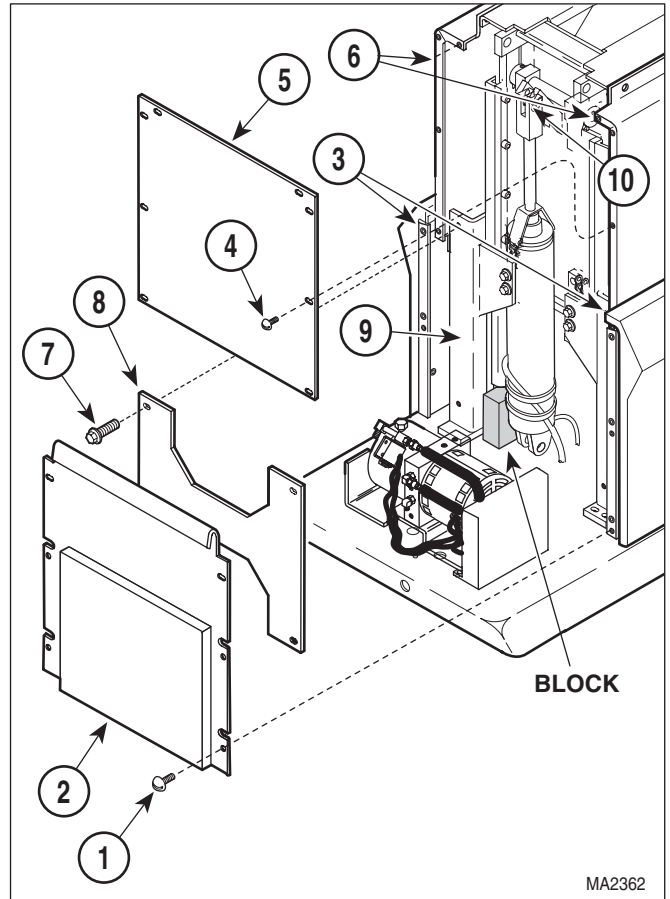
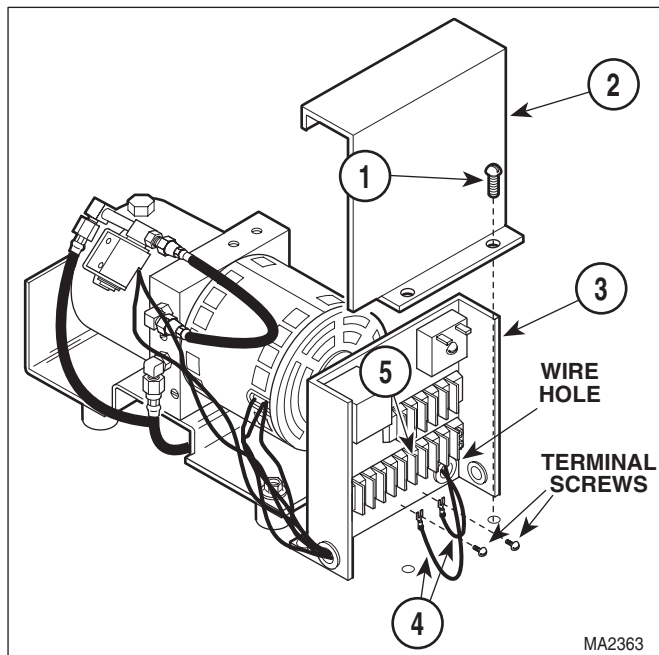
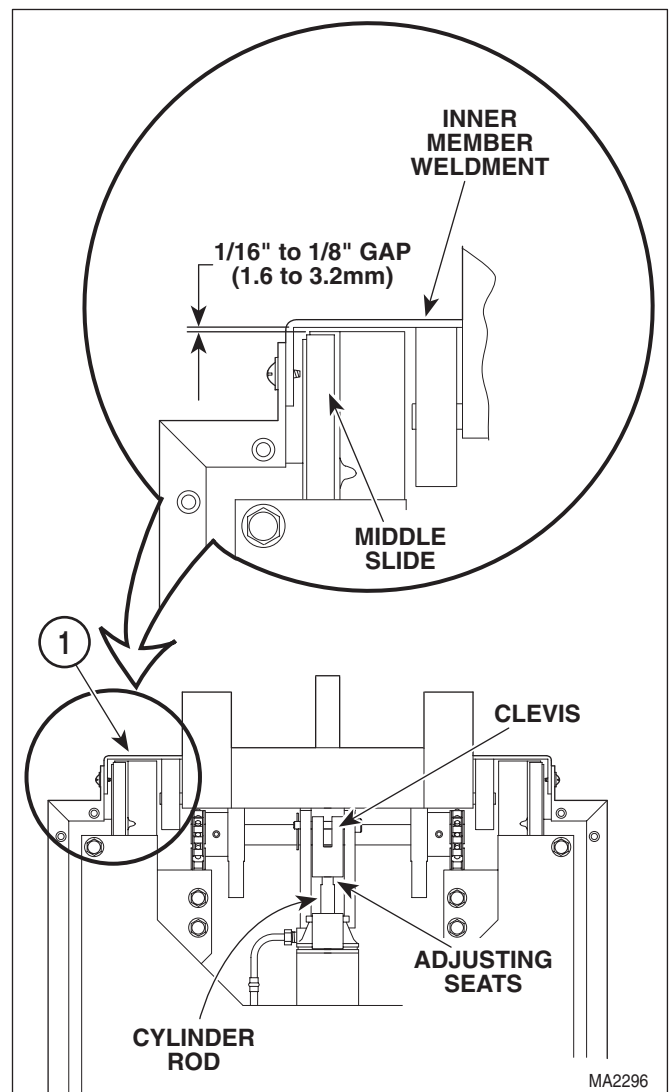

Figure 4-17. Base Cylinder Access
Figure 4-18. Base Cylinder Wires Disconnection / Connection
Figure 4-20. Base Cylinder Clevis Adjustment
- (1) Unplug table power cord from outlet.
- (2) Remove motor cover assembly (Refer to para 4.2).
- (3) Remove four screws (1, Figure 4-17) and back outer shroud (2) from left and right hand outer shrouds (3).
- (4) Remove eight screws (4) and back inner shroud (5) from left and right hand inner shrouds (6).
- (5) Remove four screws (7) and brace (8) from base slide assembly (9).
- (6) Plug table power cord into outlet.
- (7) If BASE DOWN function is operable, place a block under middle slide of base slide assembly (9). Then lower the BASE DOWN function until the middle slide of the base slide assembly is resting on block and pressure is off clevis pin (10). If BASE DOWN function is not operable, move table top to a horizontal position and place supports under each end of table.
- (8) Remove two screws (1, Figure 4-18) and control cover (2) from control panel (3).
- (6) Feed base cylinder wires (4, Figure 4-18) thru wire hole.
- (7) Connect two base cylinder wires (4) to terminal block (5) and secure by tightening two terminal screws.
- (8) Install control cover (2) on control panel (3) and secure with two screws (1).
- (9) Plug table power cord into outlet.
- (10) See Figure 4-17. Raise BASE UP function slightly and remove block from under middle slide of base slide assembly (9) or remove supports from under table top.
- (11) Lower BASE DOWN function all the way down.
- (12) See Figure 4-20. If there *is not* a 1/16 to 1/8 inch (1.6 to 3.2 mm) gap between inner member weldment and top of middle slide when the BASE DOWN function is completely lowered (it especially important that the inner member weldment does not come into contact with the top of the middle slide), perform steps 13 thru 15. If gap is correct when the BASE DOWN function is completely lowered, go to step 16.
- (13) Raise BASE UP function up until cylinder rod is extended halfway.
- (14) Place a wrench on adjusting seats of cylinder rod and use it to rotate cylinder rod to adjust clevis up or down as necessary.
- (15) Repeat steps 11 thru 15 until there *is* a 1/16 to 1/8 inch (1.6 to 3.2 mm) gap between inner member weldment and middle slide of base slide assembly when the BASE DOWN function is completely lowered.
- (16) Install brace (8, Figure 4-17) on base slide assembly (9) and secure with four screws (7).
- (17) Install any cable ties removed during removal.
- (18) Install back inner shroud (5) on left and right hand inner shrouds (6) and secure with eight screws (4).
- (19) Install back outer shroud (2) on left and right hand outer shrouds (3) and secure with four screws (1).
- (20) If necessary, add oil to motor pump (Refer to para 4.3).
- (21) Install motor cover assembly (Refer to para 4.2).